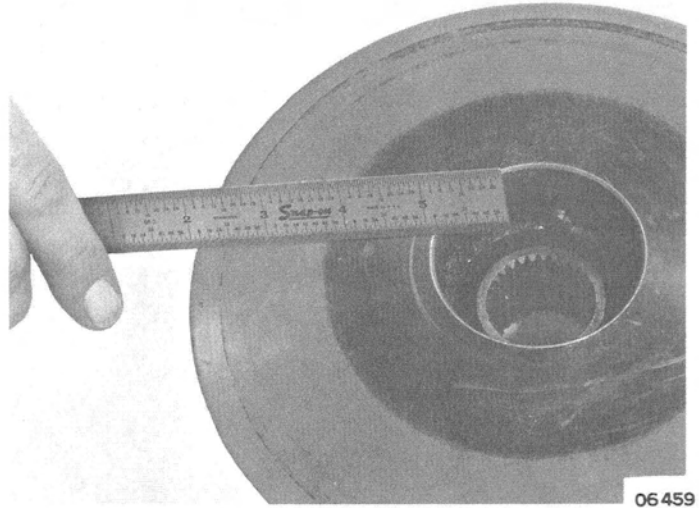

Figure 9. Checking Belt Faces with Straight Edge
5. Examine belt surface of pulley faces and replace if worn, grooved, pitted, scored or other damage. Check for wear by placing straight edge across surface (Figure 9)
1. Check sheave faces for abnormal wear. (See Figure 9 of drive sheave "Cleaning and Inspection".)